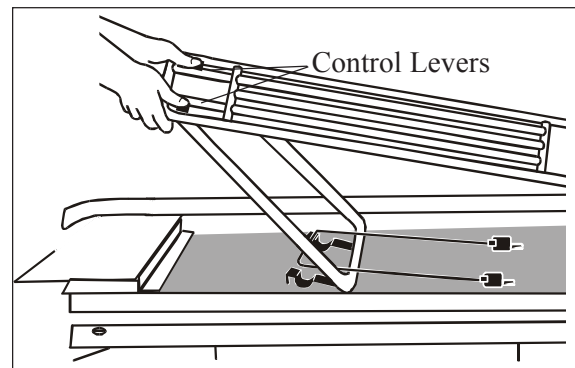

Figure 8 - Lowering the Shock Frame
3. With your thumbs, press downward on control levers to disengage support bars and allow frame to move downward (Figure 8).